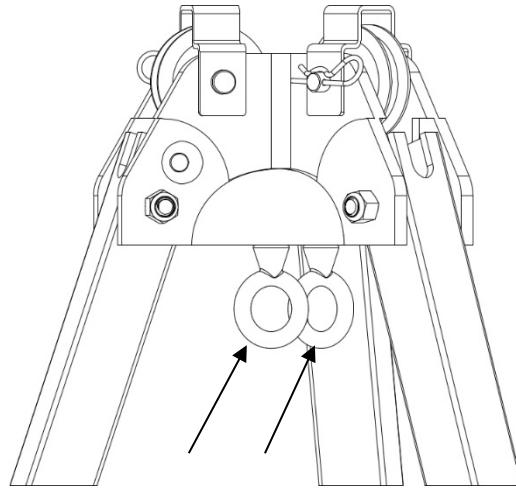

Figure 10
Figure 10 – Anchorage Points	10
11. If the unit is to be used as a standalone anchorage, attach an SRL to either of the two anchorage points in the head assembly (Figure 10). Only one person may be attached to the tripod at a time.